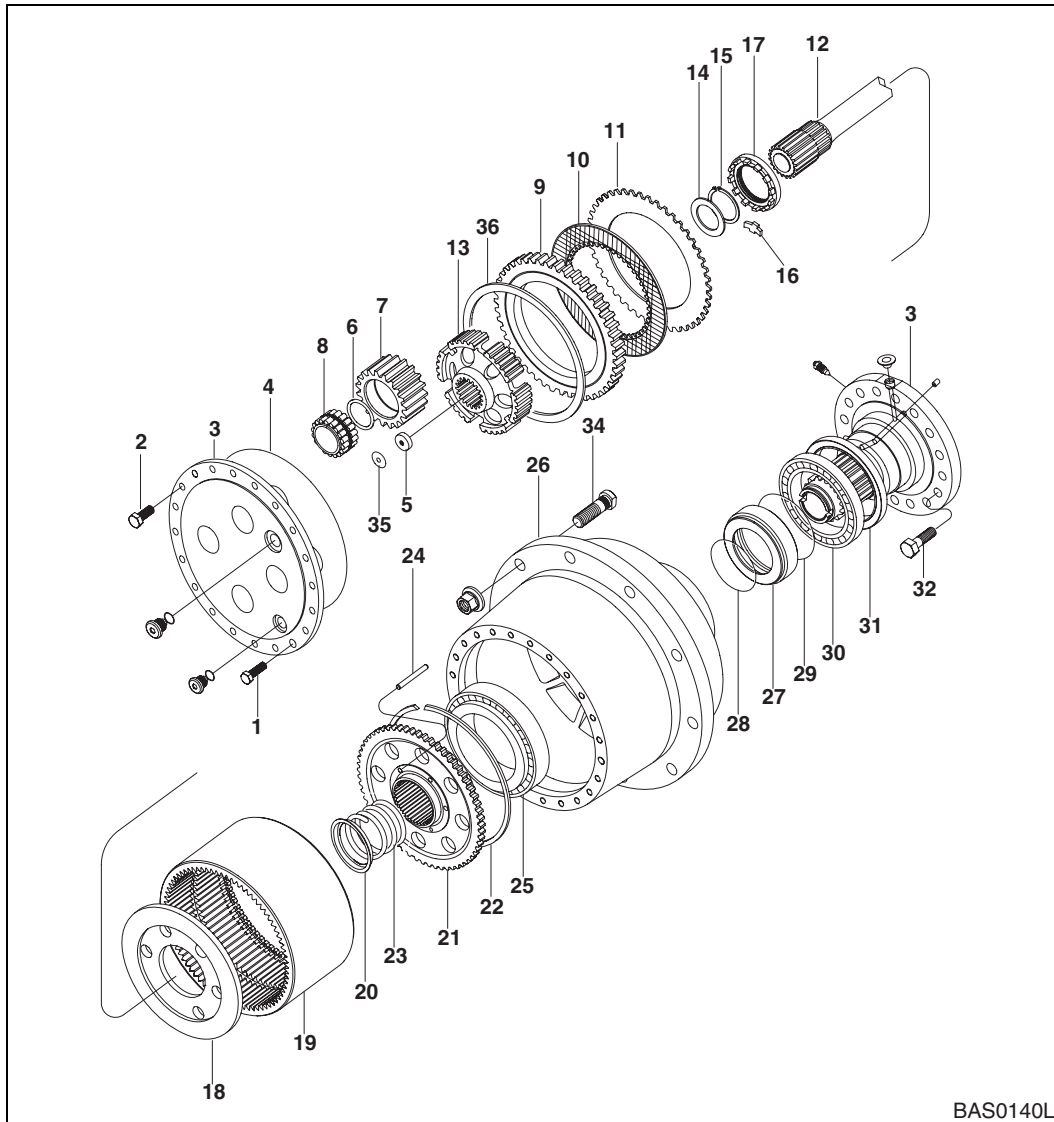

Figure 13
- A. Install spindle (33, Figure 13) on the axle housing so that the brake bleed port is in the original upper position.
- B. Tighten cap screws (32, Figure 13).
- C. Press fit outer races of wheel bearings (25, Figure 13 and 27) into wheel hub (26).
- D. Install oil seal (31, Figure 13) using a proper seal driver.